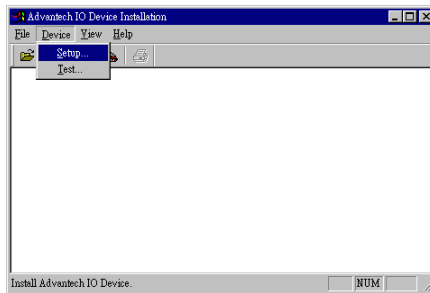
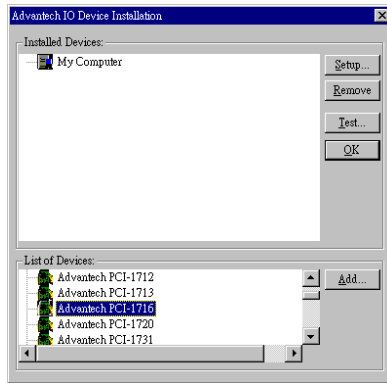

Figure 2-4: *The Advantech Device Installation utility program*
Figure 2-5: The I/O Device Installation dialog box
Step 2: On the *Device Installation* program window, select the Setup menu item on the menu bar, and click the *Device* command (Figure 2-4) to bring up the *I/O Device Installation* dialog box (Figure 2-5). You can then view the device(s) already installed on your system (if any) on the *Installed Devices* list box. Since you haven't installed any device yet, you might see a blank list such as the one on the next page (Figure 2-5).